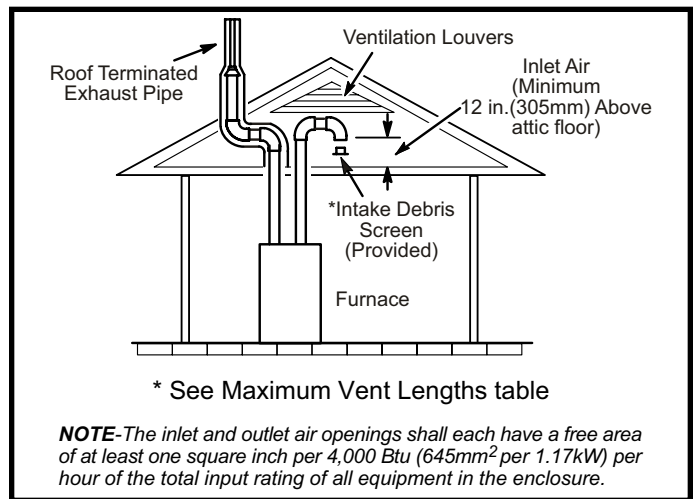
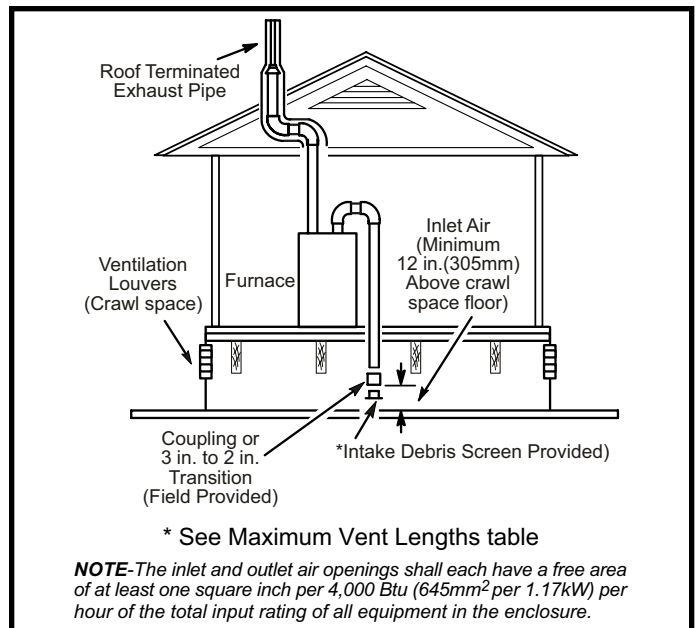

Figure 25. Equipment in Confined Space
Figure 26. Equipment in Confined Space
2. If intake air is drawn from a ventilated attic (Figure 25) or ventilated crawlspace (Figure 26) the exhaust vent length must not exceed those listed in Table 8. If 3" diameter pipe is used, reduce to 2" diameter pipe at the termination point to accommodate the debris screen.